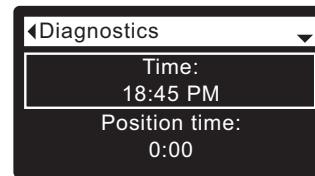

FIG. 102
8. Press the SELECT (O) button to display the Diagnostics screen (See Figure 102).